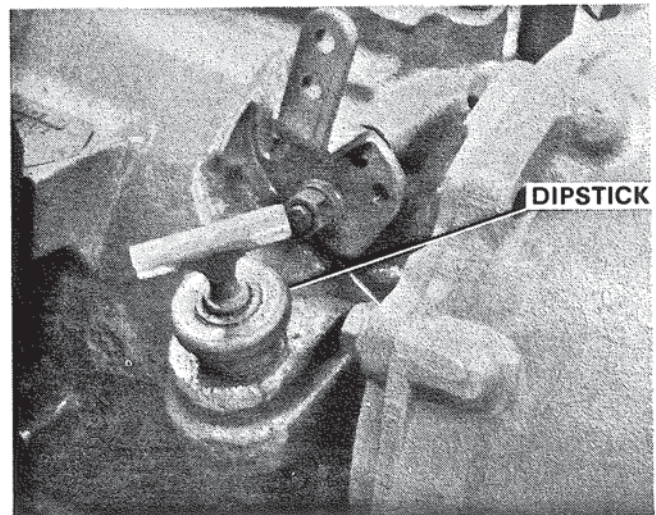

Figure 5. Warner Velvet Drive Dipstick.
2. Transmission. Warner Velvet Drive: Check oil level before starting engine. Oil level should be maintained at full mark on the dipstick. The recommended fluid is "Dexron" or Automatic Transmission Fluid, Type "A", and is added as necessary through the dipstick opening. Figure 5.